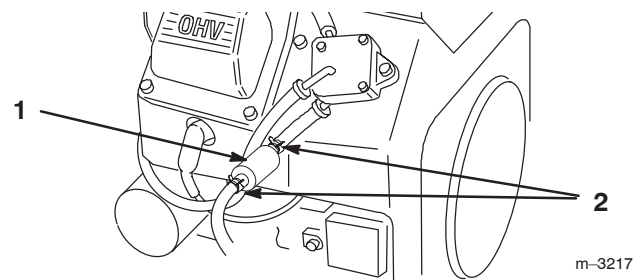

Figure 25
4. Squeeze the ends of the hose clamps together and slide them away from the filter (Fig. 25).